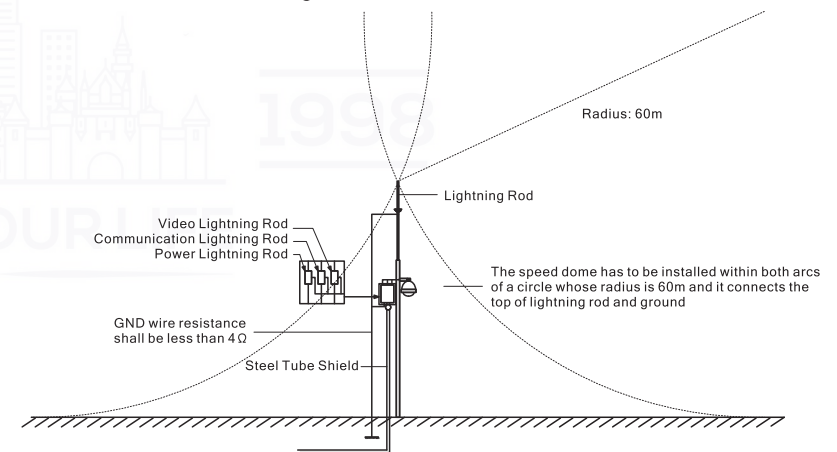

Figure 4–1
- System shall adopt equal-potential wiring. The earth device shall meet anti-jamming and at the same time conforms to your local electrical safety code. The earth device shall not short circuit to N (neutral) line of high voltage power grid or mixed with other wires. When connect the system to the earth alone, the earth resistance shall not be more than  $4\ \Omega$  and earth cable cross-sectional area shall be below  $25\ \text{mm}^2$ . See Figure 4–1.